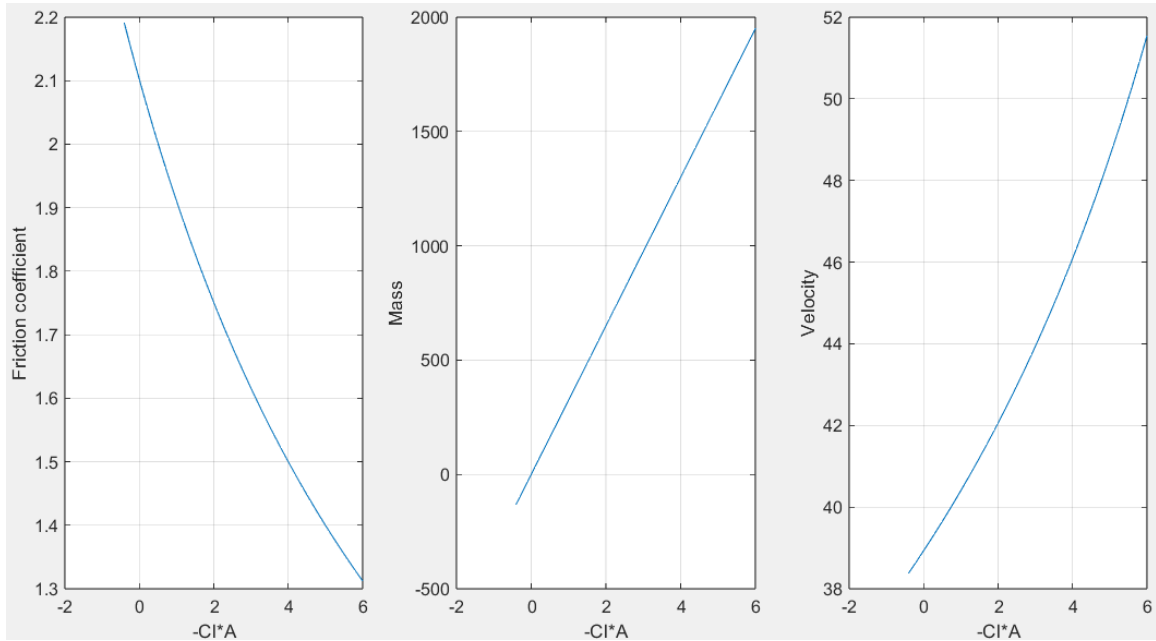

Figure 3: Plots of $-C_L A$ versus friction coefficient, mass, and velocity
The equations of μ , m , and V_{linear} in terms of $C_L A$ are as below, derived from Equation 3.1. The known values are substituted in each case to generate the simplified equations of the graphs in Figure 3, which show how each of these three properties vary with $C_L A$ when everything else is kept constant.
- For the same mass and velocity, increasing the downforce F_z allows the friction coefficient to be lower for the same F_y , as shown in the plot on the left in Figure 3.
- For the same friction coefficient and velocity, increasing the downforce and thus increasing the frictional force F_y that the road can offer allows the road to resist a greater lateral force from the tyres, which means that the car can face a greater centrifugal force. This allows the maximum mass of the vehicle to be higher, as shown in the plot in the middle in Figure 3.